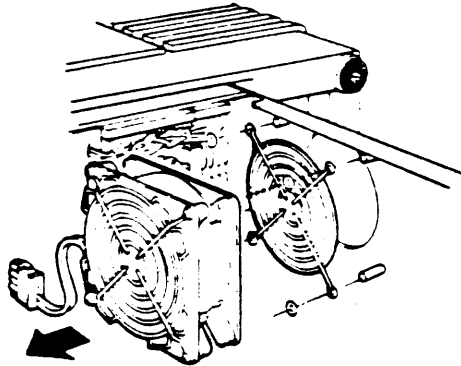

Figure 8-29 Remove the Front Cooling Fan
7. Remove the four screws and spacers that hold the fan and fan guard to the chassis and remove the fan (Figure 8-29).